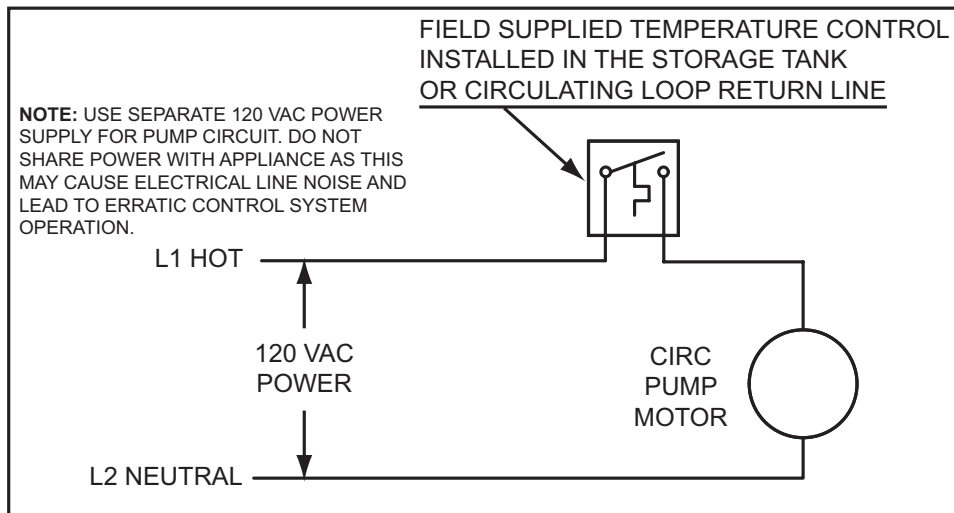

Figure 87. Recirculating Loop with Storage Tank or Building Recirculation
6. If a pump is being installed between a water heater and storage tank or on a building recirculation loop wire according to *Figure 87* (page 102).
6. If a pump is being installed between a water heater and storage tank or on a building recirculation loop wire according to **Figure 87** (page 102).